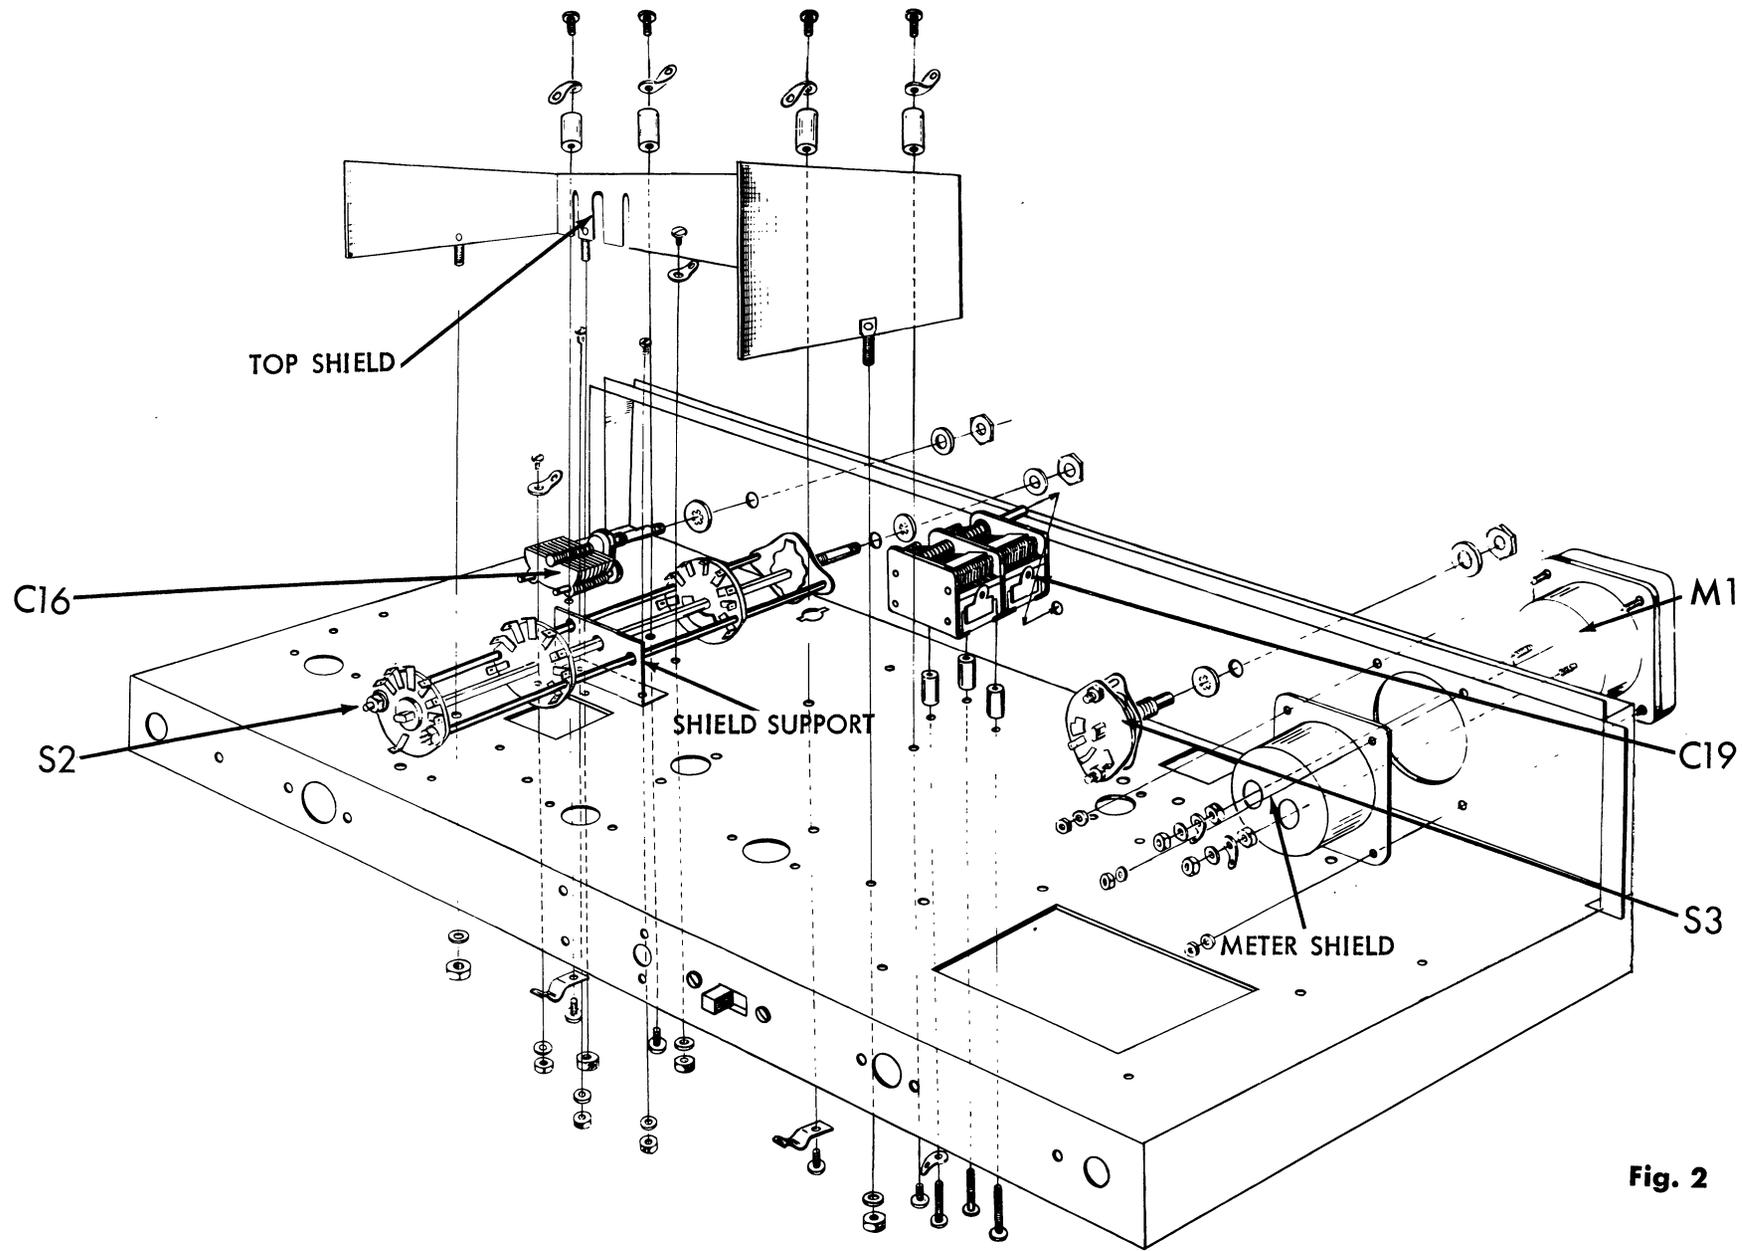
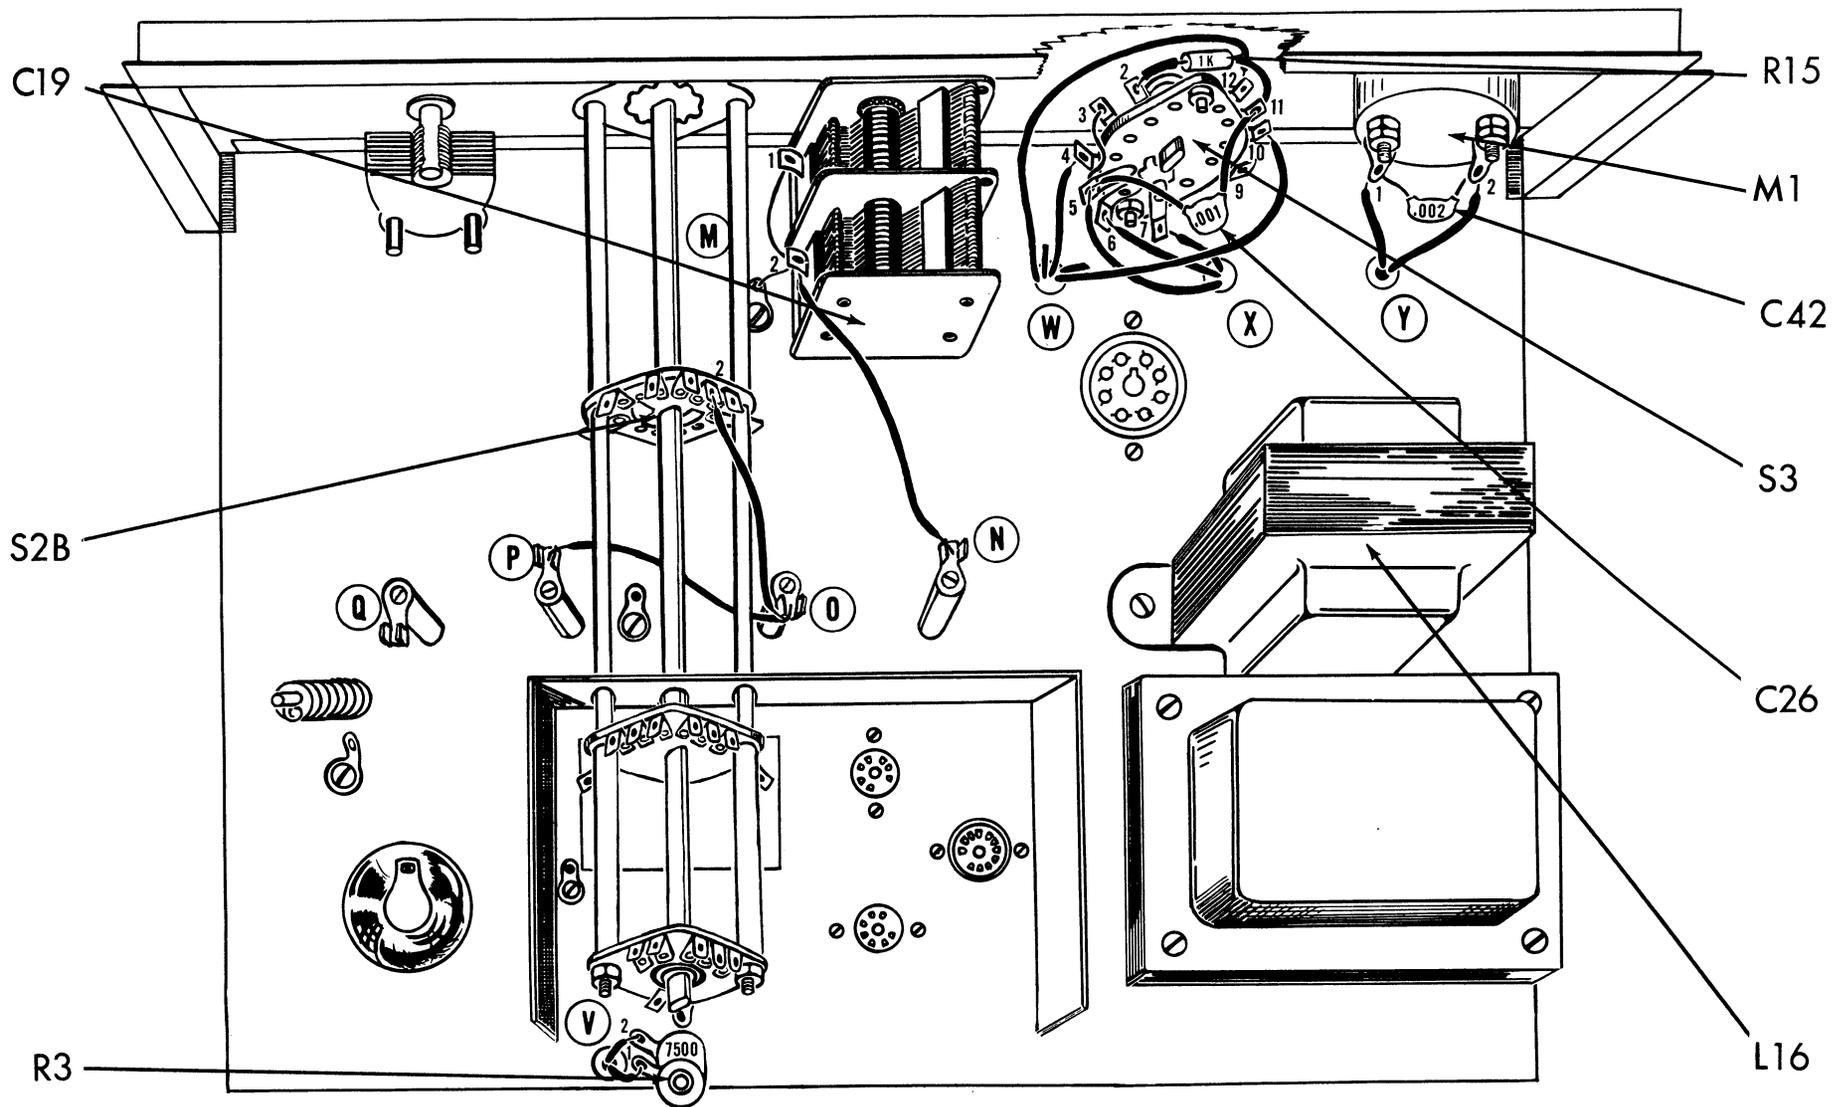

Fig. 2
Fig. 3
1. (✓) Fig. 2. Mount the meter from the front of the panel as shown. Over the rear of the meter, place the meter shield behind the panel. Place four #4 lockwashers over the four mounting screws. Secure the meter to the panel with four #4 brass hex nuts found in the carton containing the meter. On each meter terminal, use one #8 brass flat washer, one #8 ground lug, a second #8 brass flatwasher and the #8 brass hex nut. The hardware for both lugs are found in the box containing the meter.
2. (✓) Fig. 2. Turn the single wafer ceramic switch, S3, to its maximum counter clockwise position. Mount as shown, using one #3/8 lockwasher, one #3/8 flatwasher and one #3/8 hex nut.
3. (✓) Fig. 2. Mount the two gang variable capacitor, C19, as shown. First push the three #6-32 x 1 1/8 screws through the three holes from the bottom of the chassis below the capacitor. Under the head of one of the screws, below the chassis, mount a #6 ground lug. Hold all these screws in place by temporarily taping each with a separate piece of scotch electrical, masking or adhesive tape to the bottom of the chassis. Place a 13/16" metal cylindrical standoff over each of these screws from the top of the chassis. Push the capacitor shaft through the hole in the front panel of the chassis. Remove the tape from one of the screws, and with a screwdriver, screw it into the appropriate threaded hole in the capacitor. Do not tighten this screw. Repeat with the other two mounting screws. When capacitor is in place, tighten all screws.
4. (✓) Fig. 2. Mount the three wafer switch, S2, as shown. Use one 3/8 lockwasher, one 3/8 flatwasher and one 3/8 hex nut. Mount the shield support on S2 using two #6-32 x 1/4 screws, two #6 lockwashers and two #6-32 hex nuts.
5. (✓) Fig. 2. Mount the variable capacitor, C16, Stock# 29011, as shown. Use one 3/8 lockwasher, one 3/8 flatwasher and one 3/8 hex nut.
6. (✓) Fig. 2. Behind the two variable capacitors, on either side of the switch, S2, you will find a row of 5 unevenly spaced, 5/32" holes, running across the chassis. In the middle hole mount a #6 ground lug. Use one #6-32 x 1/4 screw, and one #6 hex nut.
7. (✓) Fig. 2. In the four remaining holes mentioned in step 6, mount four 1" ceramic insulators, using a #8-32 x 3/8 screw from the bottom of the chassis. DO NOT tighten too much or ceramic will crack. Place a metal cable clamp under each one of two of the screws as shown below the chassis. On the top of each of these insulators, mount a #8 ground lug with a #8-32 x 3/8 screw. DO NOT tighten too much or ceramic will crack. (Note direction of lugs in Fig. 3.)
NOTE: Top shield shown in fig. 2 will be mounted later.
6. (✓) Fig. 2A. Mount the 7500Ω, 20 watt wire-wound resistor, R3, using a #6-32 x 2 1/2 screw thru the top and secure to the chassis with a #6 lockwasher and a #6-32 hex nut. Between the head of the screw and the top of the resistor there are three washers; a #6 flat metal washer, a #6 fibre shoulder washer and a #12 fibre shoulder washer in that order. Please note that the shoulder on the #12 washer fits into the resistor and the shoulder on the #6 washer fits into the hole in the #12 washer. Between the resistor and the chassis, there are two washers, a #12 fibre shoulder washer and a #6 fibre shoulder washer in that order. (Note direction of mounting in Fig. 3.)
1. (✓) Fig. 3. Connect a 5" piece of red wire to meter lug M1-1 (C) and a 5" piece of black wire to M1-2 (C). Push both leads through hole "Y" in the chassis.
2. (✓) Fig. 3. Cut both leads on a .002 mfd - 1000 V (2K or 2000 mfd) disc capacitor, C42, to 3/4". Connect from M1-1 (S2) to M1-2 (S2).
3. (✓) Fig. 3. Connect one end of a 18" piece of violet wire to S3A-12 (S1). Push the other end of the wire through hole "W" in the chassis.
4. (✓) Fig. 3. Connect one end of an 11" piece of green wire to S3A-4 (S1). Push the other end of the wire through hole "W" in the chassis.
5. (✓) Fig. 3. Connect one end of a 9" piece of blue wire to S3A-10 (S1). Push the other end of the wire through hole "W" in the chassis.
6. (✓) Fig. 3. Connect one end of a 4" piece of yellow wire to S3B-5 (C). Push the other end of the wire through hole "X" in the chassis.
7. (✓) Fig. 3. Connect one end of a 17" piece of orange wire to S3B-7 (S1). Push the other end of the wire through hole "X" in the chassis.
8. (✓) Fig. 3. Connect one end of a 20" piece of brown wire to S3B-6 (S1). Push the other end of the wire through hole "X" in the chassis.
9. (✓) Fig. 3. Connect a 3 1/2" red lead to the top of the 7500 ohm, 20 watt resistor, R3-1 (S1) and a 3 1/2" orange lead to the bottom of the resistor, R3-2 (S1). Push both leads through hole "V" in the chassis.
10. (✓) Fig. 3. Cut both leads on a 1K $\Omega$  (brown, black, red) resistor, R15, to 3/4". Cover both leads with a 1/2" piece of spaghetti. Connect from S3A-11 (C) to S3A-2 (C).
11. (✓) Fig. 3. Connect a 1 1/2" piece of bare wire covered with a 1" piece of spaghetti from S3A-3 (S1) to S3B-5 (C). (Unless otherwise specified - bare wire means thin bare wire).
12. (✓) Fig. 3. Cut both leads on a .001 mfd - 2000V (1K or 1000 mfd) disc capacitor, C26, to 1 1/4". Cover both leads with a 1" piece of spaghetti. Connect from S3B-5 (S3) to S3A-11 (S2).
13. (✓) Fig. 3. Connect a 1 1/2" piece of the heavy bare wire from C19-1 (S1) to C19-2 (C).
14. (✓) Fig. 3. Connect a 1 1/2" piece of the heavy bare wire from C19-2 (C) to insulated lug "M" (S1).
15. (✓) Fig. 3. Connect a 4" piece of the heavy bare wire from the lug "N" (C) (closest to L16) to C19-2 (C). Cover the wire with a 4" piece of spaghetti.
16. (✓) Fig. 3. Connect a 2 1/2" piece of the heavy bare wire from lug "O" (C) to S2B-2 (S1). Cover the wire with a 2" piece of spaghetti.
17. (✓) Fig. 3. Cover a 3" piece of heavy bare wire with a 2 1/2" piece of spaghetti. Connect from lug "O" (C) to lug "P" (C).